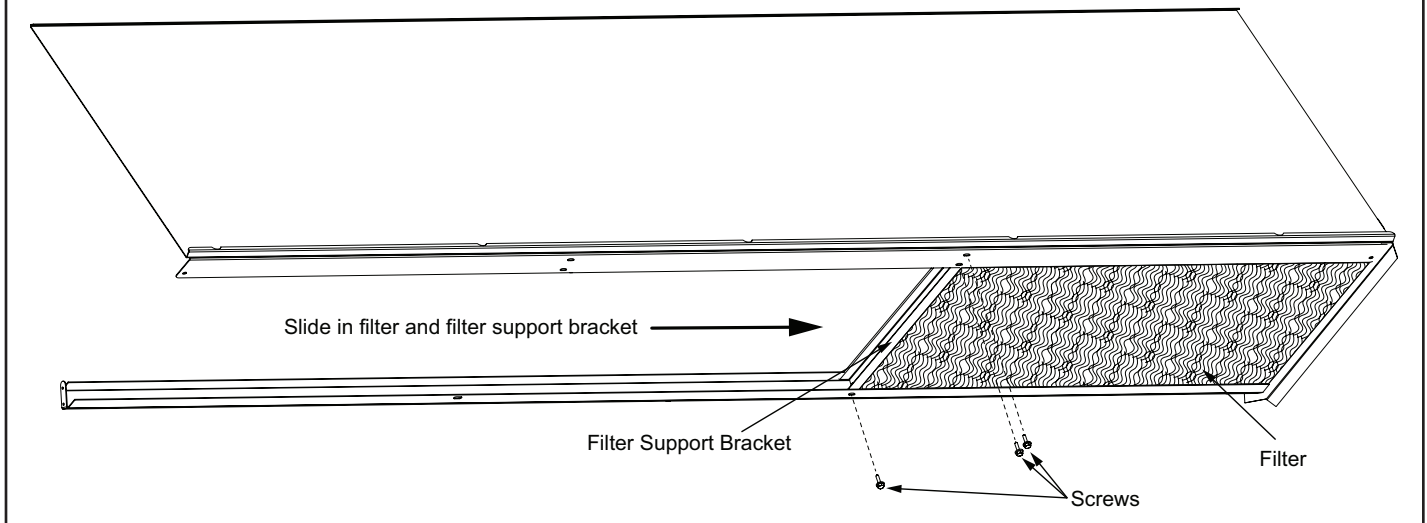

FIGURE 10
- 14 - Slide one filter in the bottom and top filter brackets through the opening on the left side and push until the filter is flush against the right hood side. See FIGURE 10.